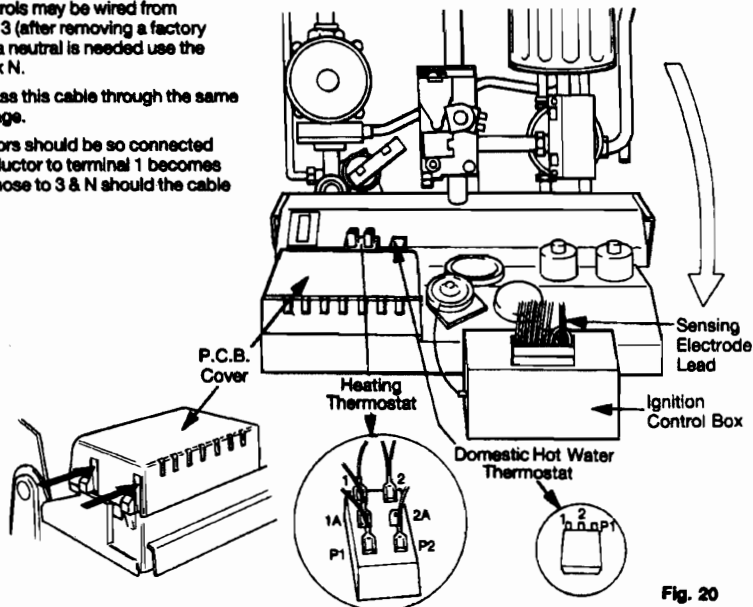

Fig. 20
Press in the sides of the printed circuit board cover (fig 20) to release retaining clips, and lift cover off.
6.6.6 If the boiler temperature is above 60°C turn the dhw thermostat down until the low flame is established. If low flame cannot be established in this way, turn off the electricity supply and transfer the cable on terminal 2 of the dhw thermostat to terminal 1 (Fig 20 shows location). Switch on electricity.
6.6.12 Disconnect the sensing electrode lead from terminal 9 on the ignition control box (fig 20)